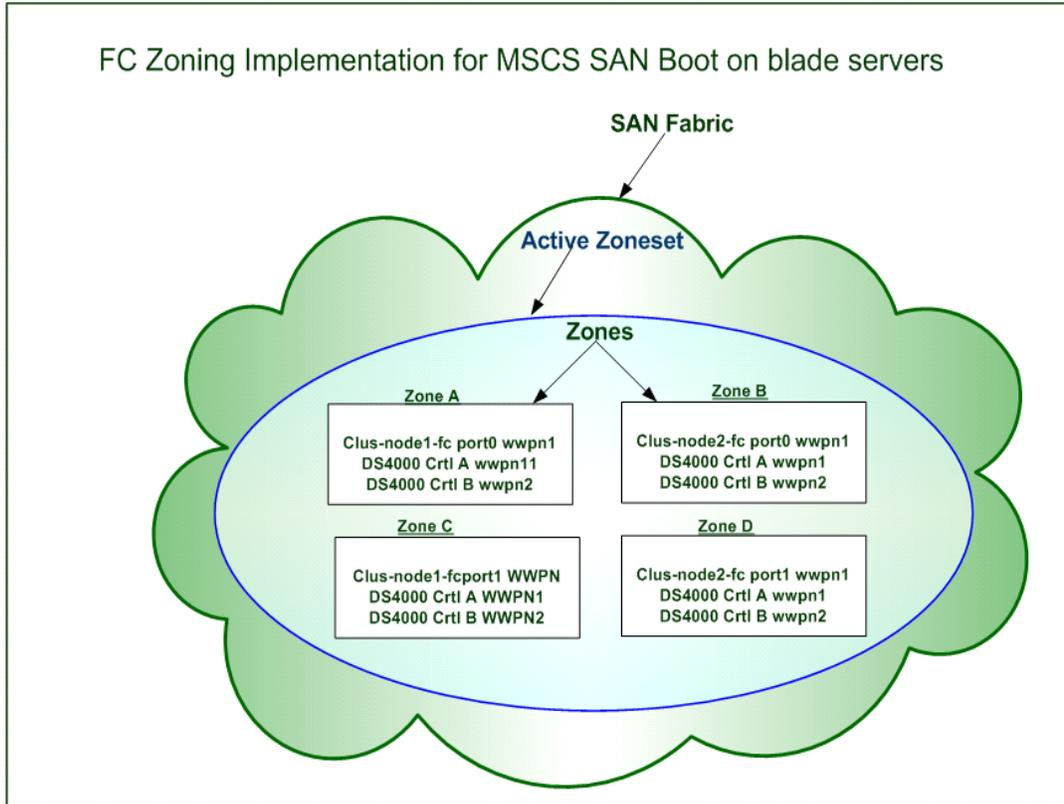

Figure 10-74 MSCS SAN boot zoning
- ▶ Zoning should be implemented in a single initiator/multi-target fashion, as illustrated in Figure 10-74, where each cluster host HBA port is mapped to both controllers of the DS4000 storage subsystem, enabling redundant paths to the boot and data/shared LUNs from the host HBAs (zone A, zone B, zone C, zone D).